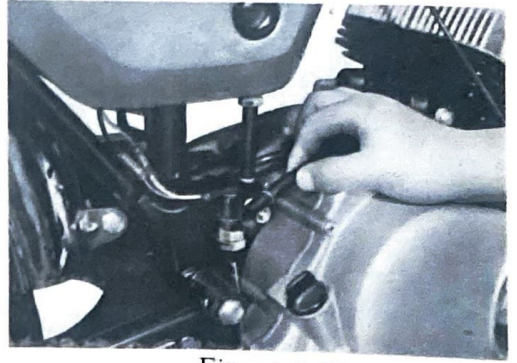

Fig. 4-1-13
11. Disconnect the oil line from the oil tank bottom. (Fig. 4-1-13)